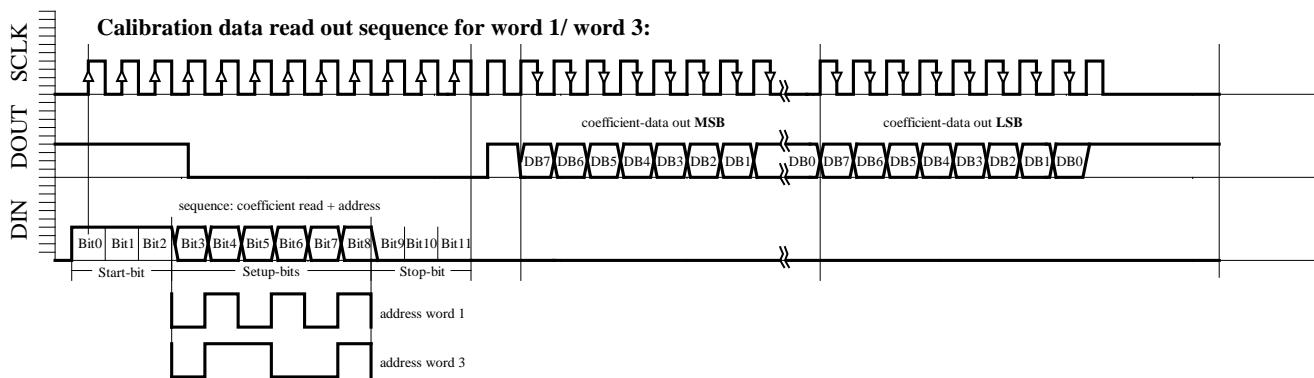

Fig. 6c: Word1, Word3 READING sequence
- Calibration data read-out sequence for Word1 (Figure 6c)